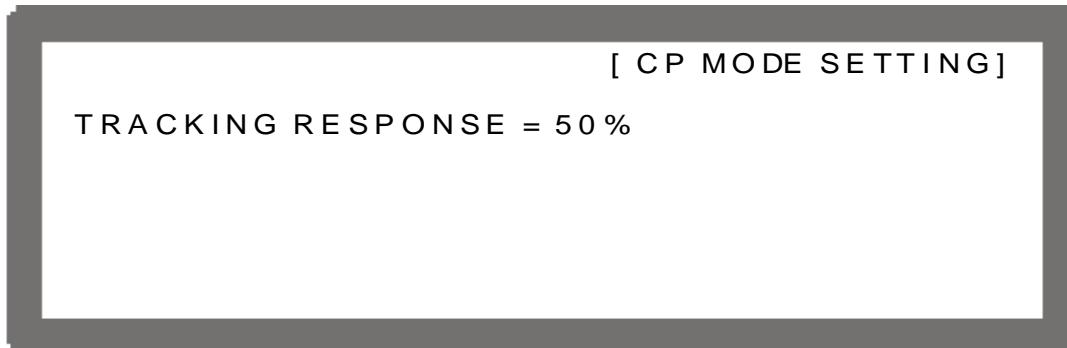

Figure 4-25
It is able to set the TRACKING speed in CP_TRACKING MODE. Select CP_TRACKING MODE and the screen shows as Figure 4-25.
1. Use the numeric (**0~9**) keys or “Rotary” (**○**) knob to set the value. The input range is 1~100 as Figure 4-25 shows. The smaller the number the slower the response speed but higher stability.